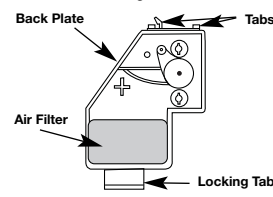

Fig. 34
- Remove the air filter (Fig. 34).
- Replace the filter (Fig. 34).